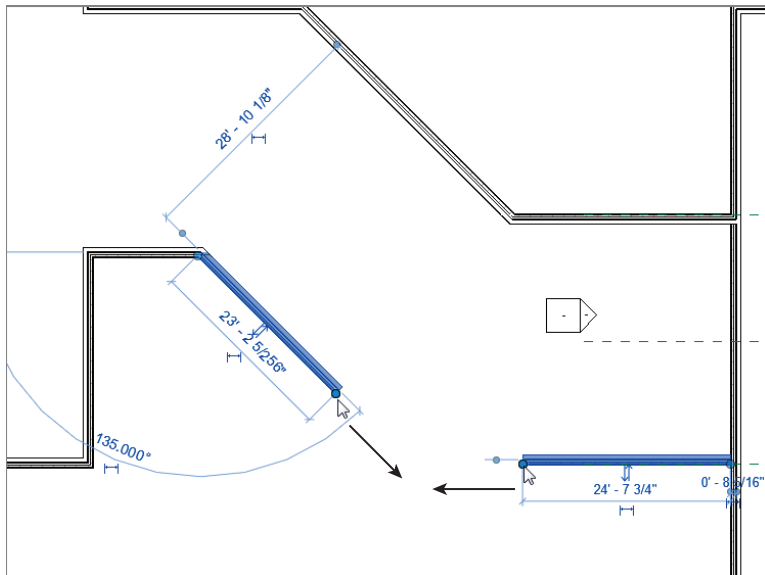
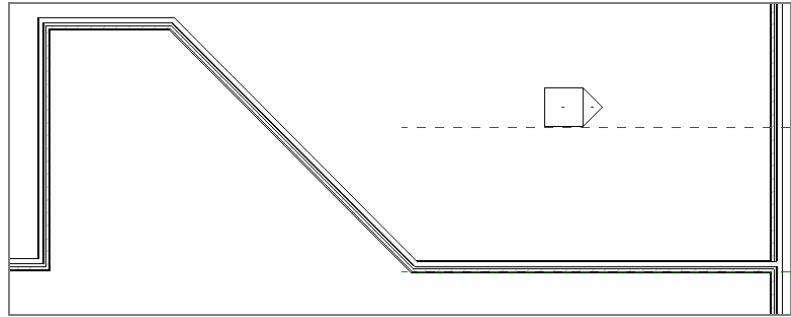

FIGURE 2.15: Stretching the wall using the blue grip
FIGURE 2.16: The walls are automatically joined when you pull the end of one into another.
2. On each end, you see a solid blue grip. Pick the right solid blue grip, and drag the wall down to meet the reference plane, as shown in Figure 2.15.
4. Pick the left blue grip, and drag this wall's end to the left until you hit the bottom corner of the diagonal wall, as shown in Figure 2.15. The two walls join together (see Figure 2.16).